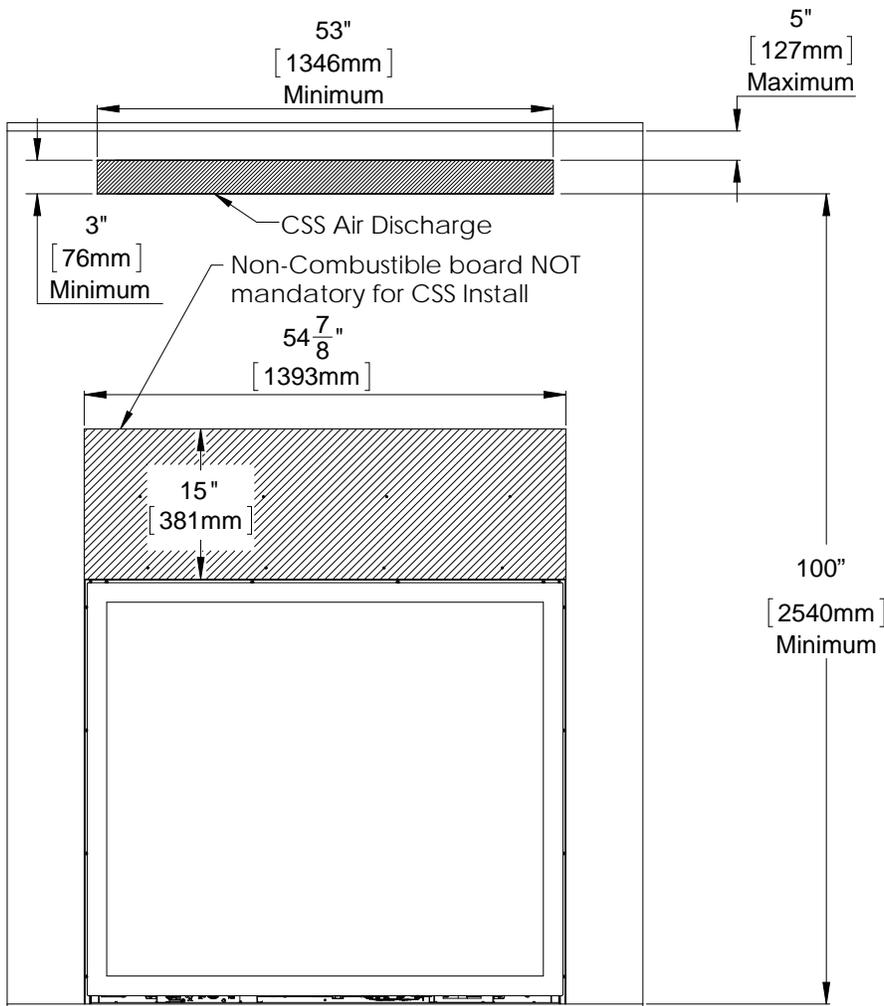

Figure 41: Framing Option 1
**Framing Option 1: Front Discharge (flush wall installations)** - Construct the framing in a way that provides a minimum 53 inch (1346mm) by 3 inch (76mm) gap at the top of the facing wall. It is essential that these dimensions are respected and not to deviate away from them when using combustible materials inside the chase (see Figure 41).